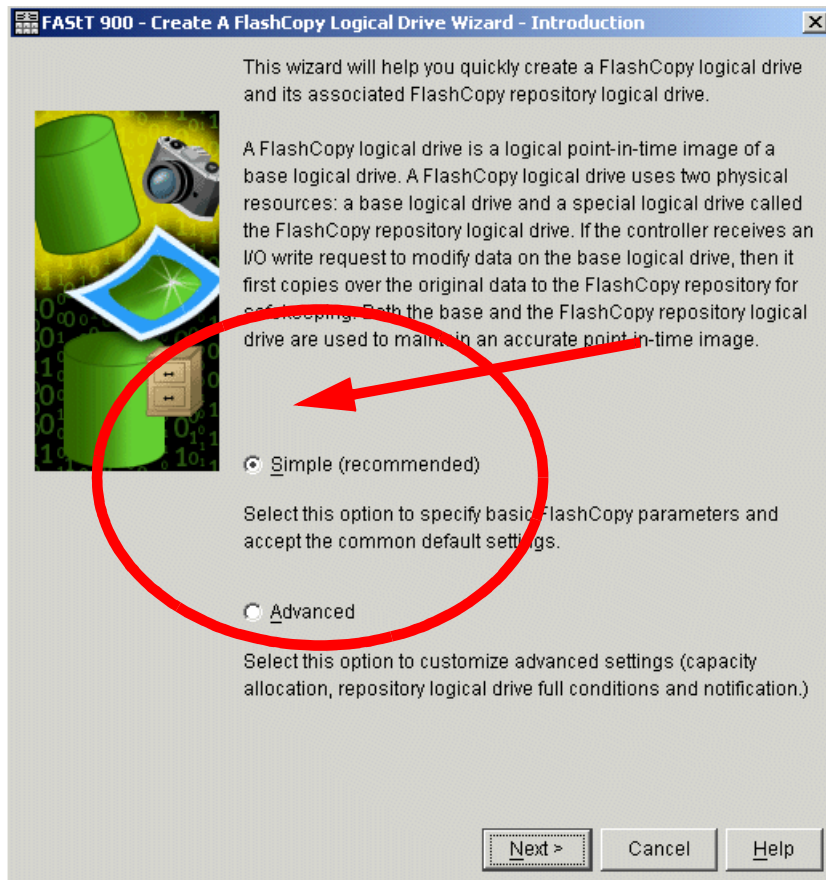

Figure 7-11 Create FC Logical Drive Wizard Introduction - Simple
The Introduction window (Figure 7-11 on page 207) defines what a FlashCopy logical drive is and the physical components associated with a FlashCopy logical drive. It enables you to select either the simple or advanced path through the Create FlashCopy Logical Drive Wizard:
- b. If you choose the simple path, as displayed in Figure 7-11, then the following steps are followed: